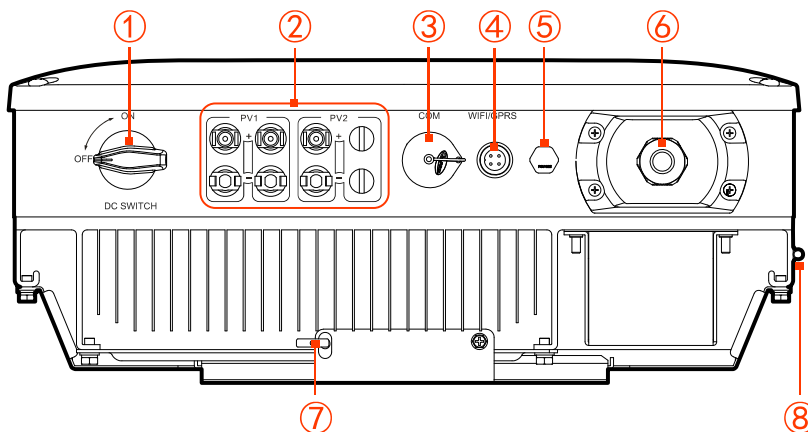

Figure2-4 Bottom view
The external terminals are all located in the bottom of the inverter, including PV input, AC output, communication port and DC switch, etc, as shown in Figure2-4.
DC switch (as shown in Figure2-4 ①) is the connection switch of inverter and PV array.